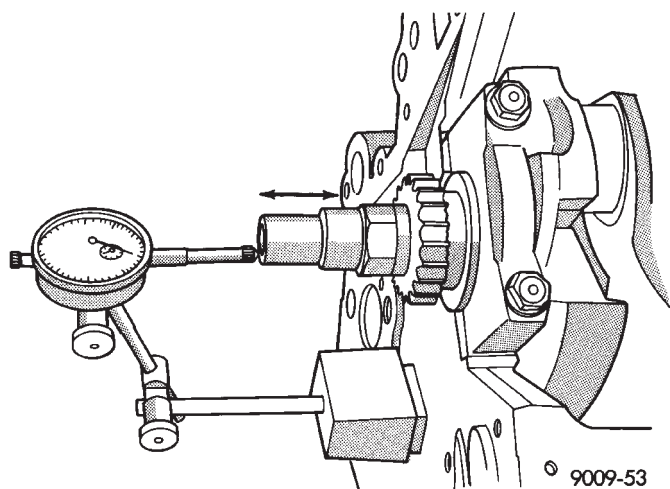

Fig. 4 Checking Crankshaft End Play
(1) Mount a dial indicator to front of engine, locating probe on nose of crankshaft (Fig. 4).
(2) Move crankshaft all the way to the rear of its travel.
(3) Zero the dial indicator.